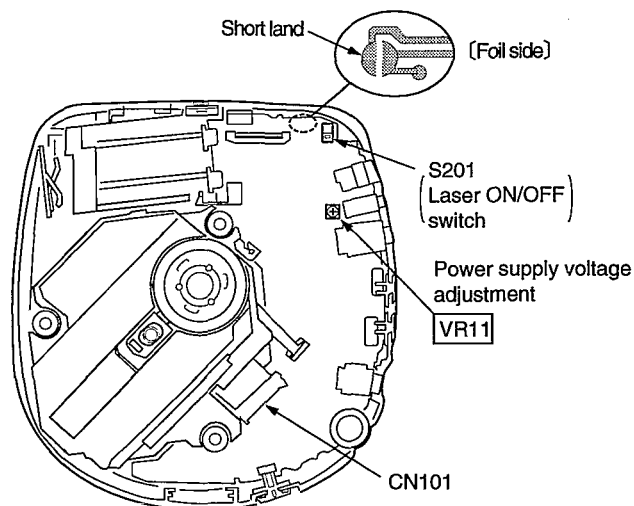

Fig. 1
Short-circuit the lands of the laser ON/OFF switch (S201) by soldering them. It turns “ON” position. (Refer to below **Fig. 1** or printed circuit board and wiring connection diagram for short land location on page 27.)
2. Take care to connect CN101 and CN102, as shown in **Fig. 1**.
4. Adjust **VR11** on the P.C.B. at 2.75 ± 0.02 V, as shown in Fig. 1.